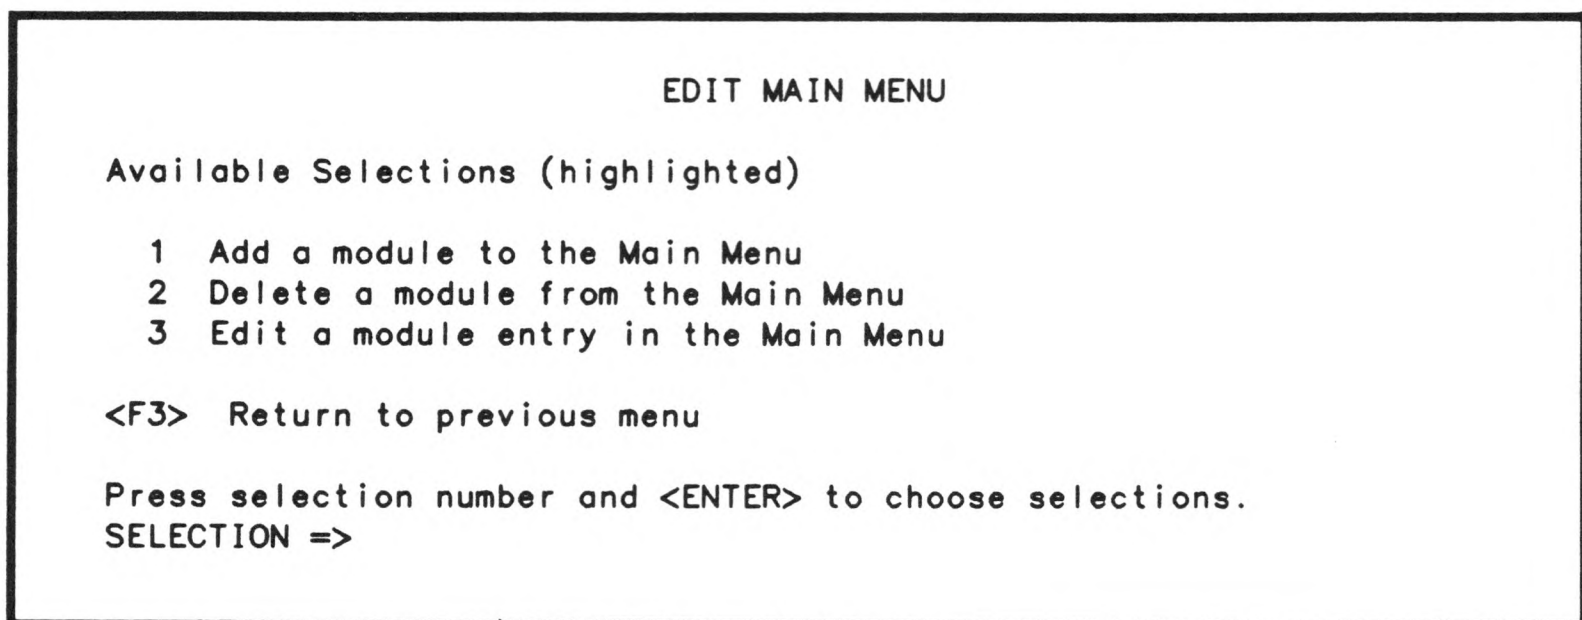

Figure 6-1. Edit Main Menu Screen
- Step 2 Press function key <F9>. The *EDIT MAIN MENU* screen displays (Figure 6-1).